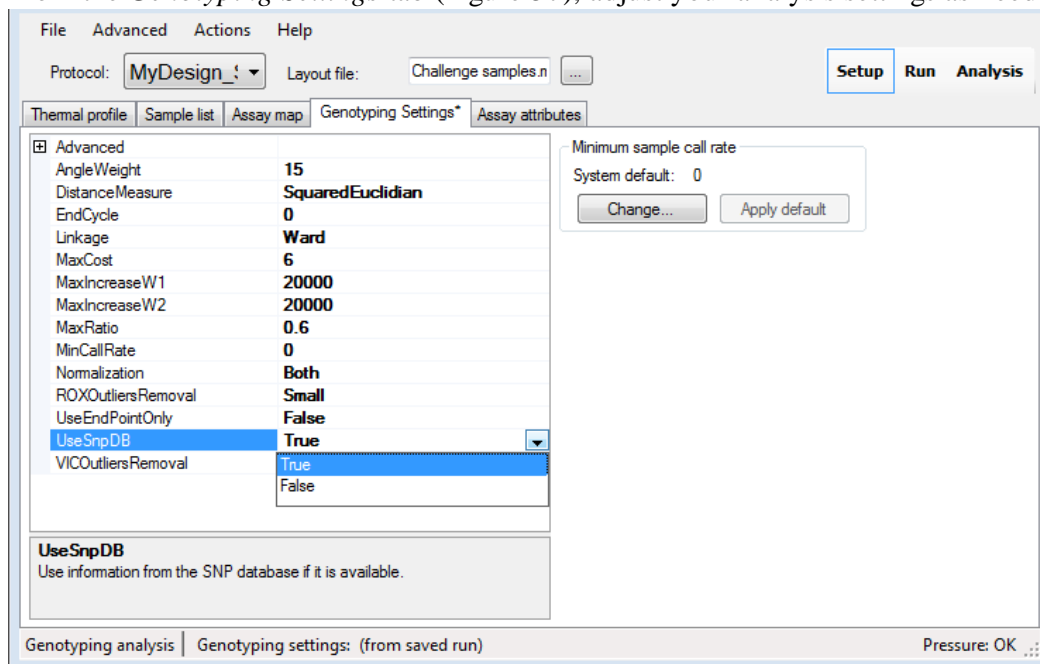

Figure 57. Genotyping Settings tab.
- From the *Genotyping Settings* tab (Figure 57), adjust your analysis settings as needed.